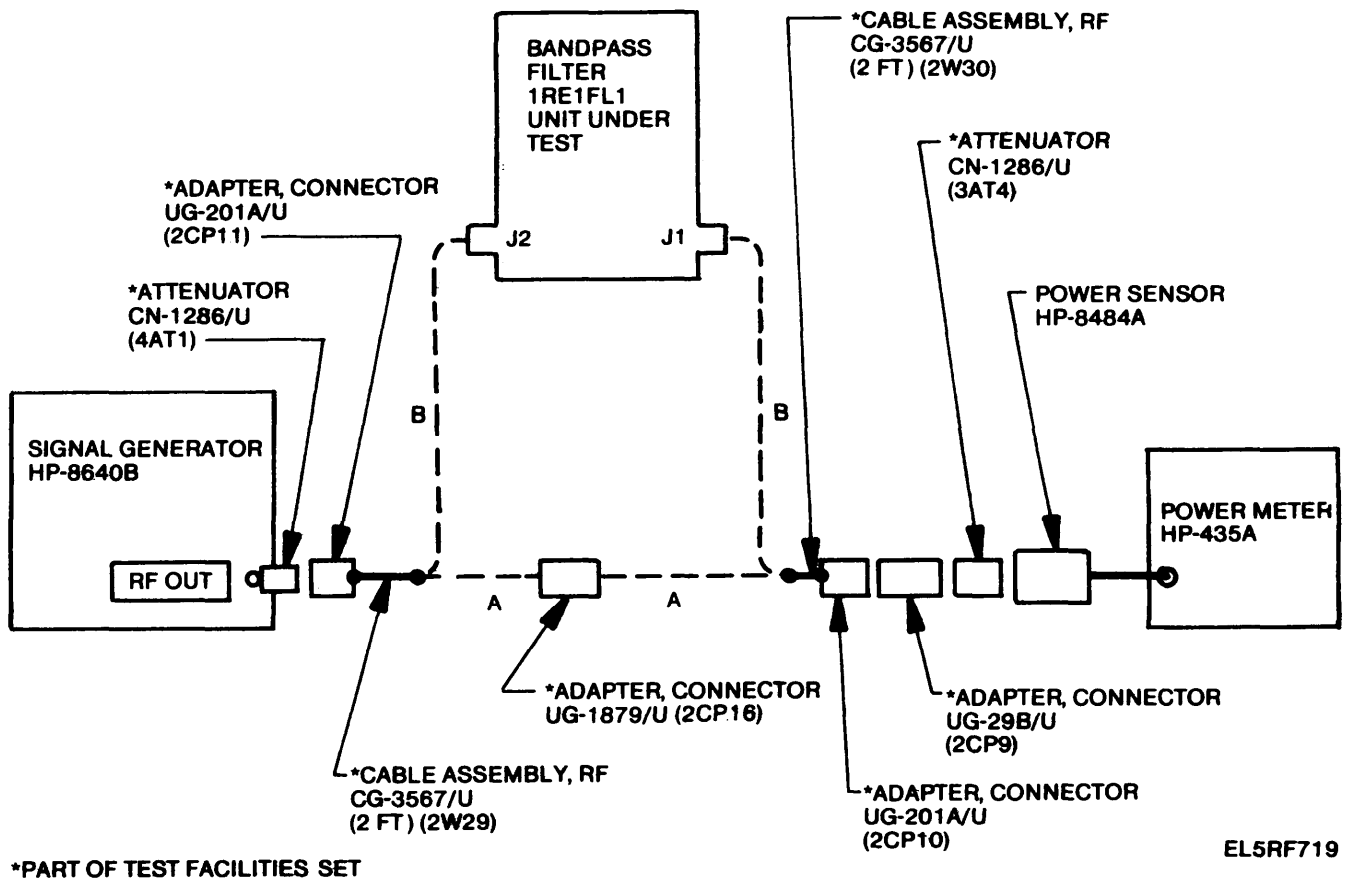

Figure 3-71. Bandpass Filter 1RE1FL1, Insertion Loss and Frequency Response Measurement, Test Setup.
(1) Connect the test equipment as shown in A, figure 3-71.
(2) Adjust the signal generator for a CW frequency of 30 MHz, at an output level of -30 dBm as indicated on the power meter.
(3) Connect the test equipment to the UUT as shown in B, figure 3-71. Fine tune the signal generator frequency for a maximum indication on the power meter. The frequency read on the frequency counter of the signal generator shall be 30 MHz $\pm$ 50 kHz. Note the frequency.
(4) The power meter shall indicate -42 dBm minimum (equivalent to a maximum insertion loss of 12 dB). Note the power meter indication.
(5) Adjust the signal generator to the frequencies listed below. Subtract the power meter indication for each frequency from the power meter indication noted in (4) above, to obtain the frequency response. The results should be within the attenuation (dB) limits specified below.